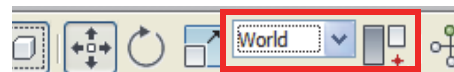

Figure 3–46
4. In the Main toolbar, click  (Select and Move). In the Reference Coordinate System, select **World**, as shown in Figure 3–46 and click  (Use Transform Coordinate Center).